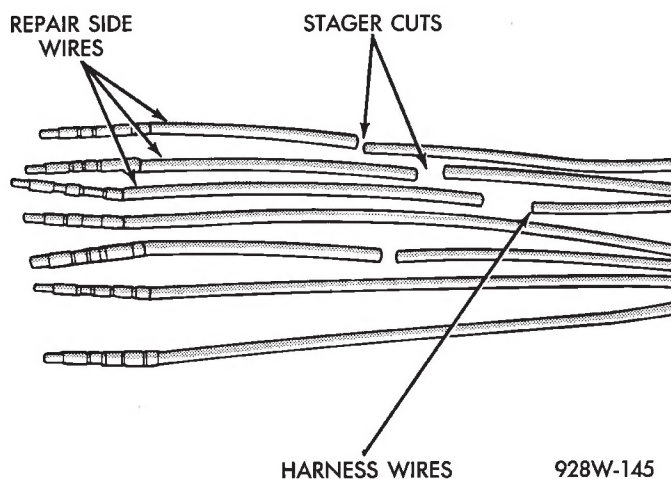

Fig. 17 Stagger Cutting Wires (Typical)
- (1) Disconnect battery.
- (2) Disconnect the connector (that is to be repaired) from its mating half/component.
- (3) Cut off the existing wire connector directly behind the insulator. Remove six inches of tape from the harness.
- (4) Stagger cut all wires on the harness side at 1/2 inch intervals (Fig. 17).
- (5) Remove 1 inch of insulation from each wire on the harness side.
- (6) Stagger cut the matching wires on the repair connector assembly in the opposite order as was done on the harness side of the repair. Allow extra length for soldered connections. Check that the overall length is the same as the original (Fig. 17).
- (7) Remove 1 inch of insulation from each wire.
- (8) Place a piece of heat shrink tubing over one side of the wire. Be sure the tubing will be long enough to cover and seal the entire repair area.